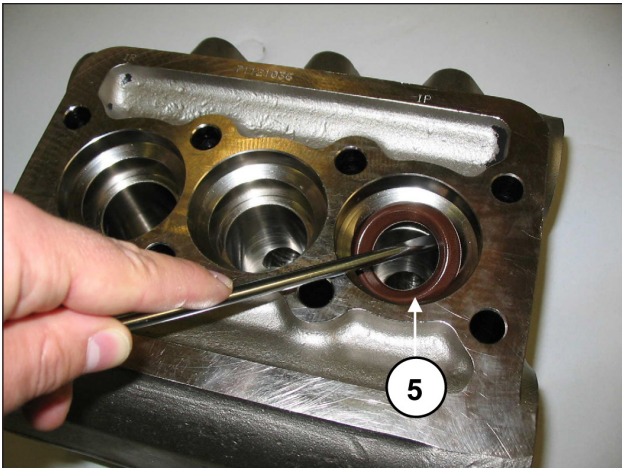

Fig. 21
- C) Extract the high pressure seals from the head and the low pressure ones from the support, using simple tools as indicated in (Fig. 21, pos. ⑤), being careful not to damage the respective housings.